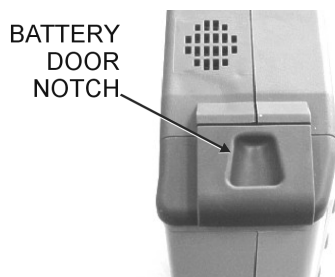
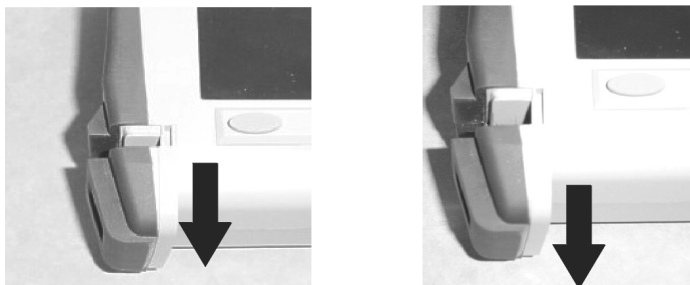

Figure 6-1. Battery Access Door Notch
Figure 6-2. Removing the Battery Access Door
1. With the MT8222A laying flat, face up, on a stable surface, locate the battery access door, as illustrated in Figure 6-1.
2. Place a finger in the battery access door notch and push the door down towards the bottom of the instrument, as illustrated in Figure 6-2.
2. Remove the battery door and battery as shown in Figure 6-1 and Figure 6-2.